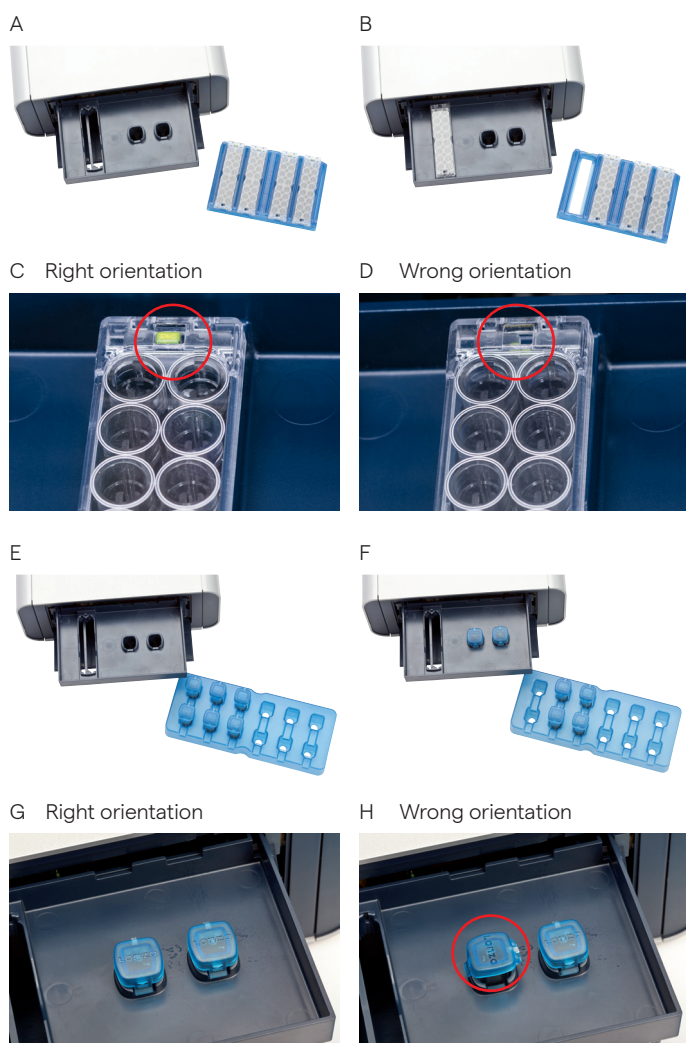

Figure 2.21: Loading vessels into 4D Nucleofector® X Unit
1. Load the 16-well Nucleocuvette® Strip (Figure 2.21 A, B) or one or two 100 µL Nucleocuvette® Vessels into the sample tray (Figure 2.21 E, F).
For the 16-well Nucleocuvette® Strip, the yellow pin at the rear end of the strip must be visible (Figure 2.21 C). If the strip is mounted in the wrong orientation, its rear end will stay above the strip holder and the yellow pin is barely visible (Figure 2.21 D). For the 100 µL Nucleocuvette® Vessel, the cuvettes should be mounted such that the Lonza label on the lid is readable and the opening clip is at the front (Figure 2.21 G).